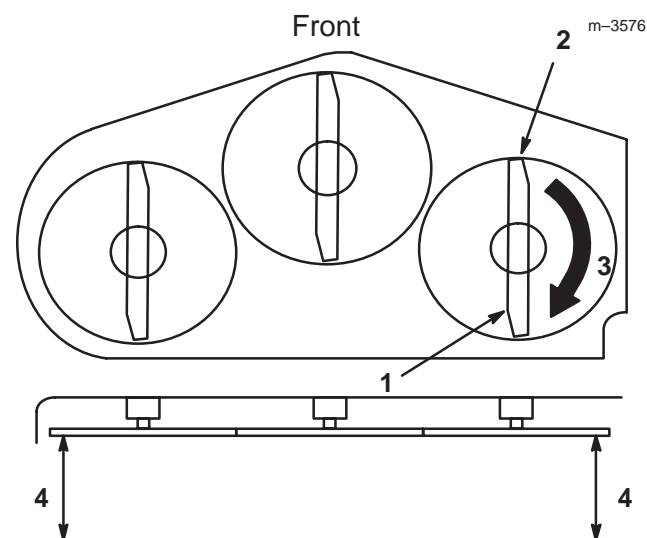
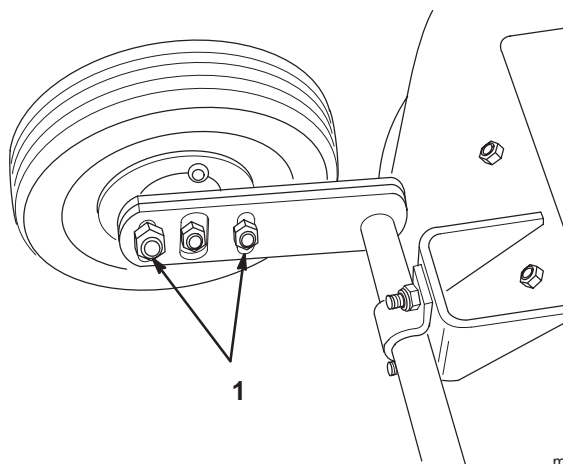

Figure 17
Figure 19
2. Carefully rotate one of the blades so it is facing front and rear (Fig. 17).
3. Measure the distance from the front tip of the blade (Fig. 17) to the flat surface.
Equalize side-to-side cut by adjusting the two carriage bolts (Fig. 19) on the mower wheels. Check height of blade at outside blade tips as shown (Fig. 17).
6. Check the slope of one of the blades (Fig. 17).